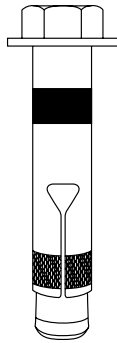

Figure 4
4. Position the mounting base over the drilled holes. Assemble anchor with nut and washer so that the top of the nut is flush with the top of the anchor. See figure 4.